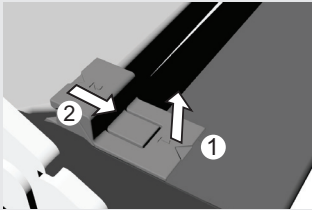

Figure 1
- Slightly lift the supports on the left and right side of the door (marking 1 on the support) and pull them away from the glass (marking 2 on the support) (see Figure 1).